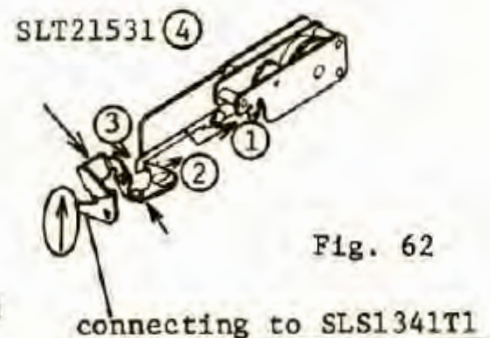

Fig. 62
- 1) When releasing the Delayed shutter release, first (1)-lever moves and continuously (2), (3) and (4) as shown in Fig. 62. The SLS134IT1 Shutter release bar is depressed by the end of (4)-SLS 21531 Release lever, so that the shutter is released.